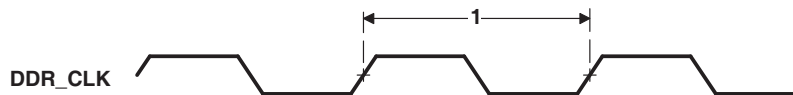

**Figure 6-18. DDR2 Memory Controller Clock Timing**
**Table 6-27. Switching Characteristics Over Recommended Operating Conditions for DDR2 Memory Controller(1)(2)(see Figure 6-18)**